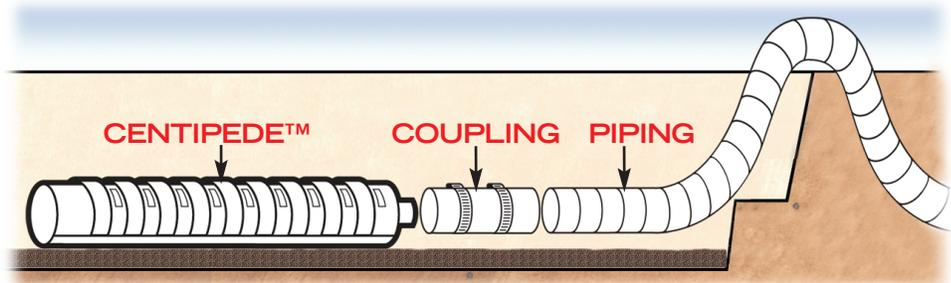

Figure 9
9. Connect the piping to the Centipede™ using the coupling provided. **The piping should go over the liner and several inches above the proposed water level within the filter.** Continue to lay the piping to the pump, trenching it if necessary. (Figure 9)